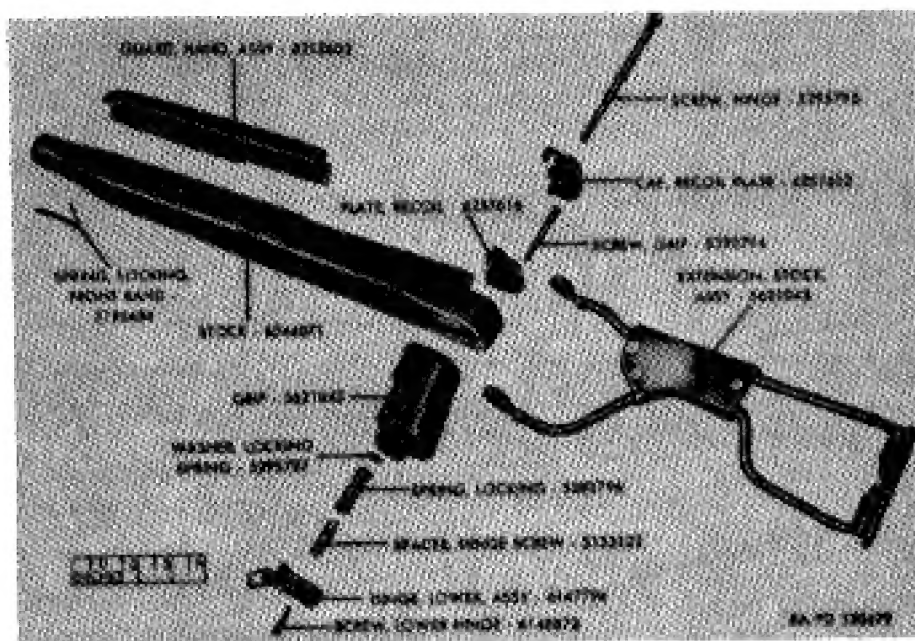

Figure 105. Stock assembly 6544072 and hand guard assembly 6212602 for carbine M1A1.
#### a. Stock Extension (Fig. 105).
m. Inspect cheek rest plate and retaining plate for deformation and looseness with each other on the bars when assembled. Inspect rivets for looseness and protrusion of heads. Inspect cheek rest cover for scoring and cracking of leather. Cheek rest plate should be held tightly to bars by retaining plate and rivets, and leather cover, on the stock extension assembly (Fig. 105), should be smooth, so it will not scrape face of operator.